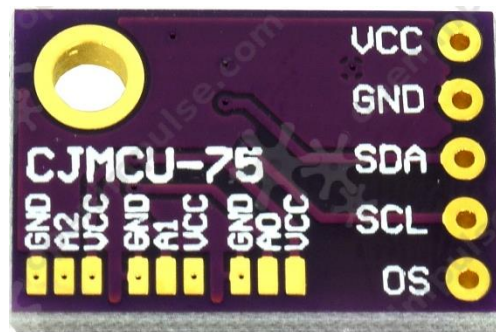

Figure 1: LM75A temperature sensor.
2. To use the LM75A temperature sensor (Figure 1),